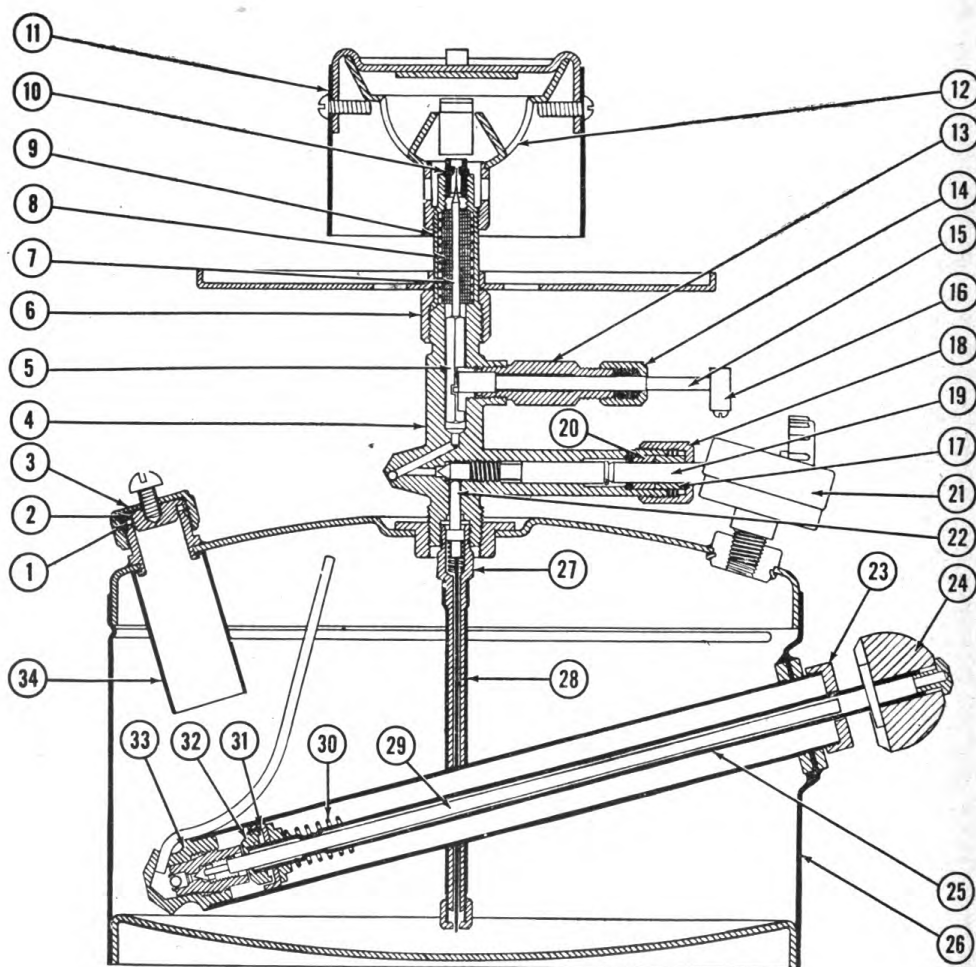

Figure 9. Cross-section of burner, one 10,000 B.t.u. head—Item No. 9R10001.
**7. TO FILL FUEL TANK.** **a.** Before filling the fuel tank of a stove or burner see that the fuel control valve (figs. 9 and 10) is closed and that the stove or burner is placed in a level position.
**b.** Unscrew and remove the filler tube plug (fig. 9), which is hand operated—a wrench should not be used to tighten or loosen this plug.
**c.** Fill the fuel tank by pouring fuel into the open filler tube (fig. 9). The fuel will begin to rise in the tube as soon as the tank has been filled to the proper level. The filler tube extends into the tank and prevents overfilling. When the liquid fuel reaches the bottom of the tube, air in the tank cannot escape and, consequently, the fuel begins to rise in the tube, indicating that the fuel tank is filled to the proper level. This feature of the stoves and burners assures adequate space for the air needed to generate the instant light mixture required to light them. (See sec. III.)
**8. TO PUMP AIR PRESSURE.** **a.** Air pressure necessary for operation of the stove or burner is provided by means of a pump (fig. 9), which extends out from the fuel tank. To operate the pump, proceed as follows:
**c.** Hold thumb or palm of hand over venthole in the end of pump handle, and pump air into the tank until the air pressure gauge (fig. 9) registers 30 pounds pressure. In the instance of those stoves and burners not equipped with an air-pressure gauge 25 to 30 full strokes of the pump will provide the proper air pressure. When proper air pressure
**9. TO LIGHT STOVE OR BURNER.** a. First clean the gas top of the vaporizer (figs. 9 and 12) by revolving the eccentric stem handle (figs. 9 and 12) several times. The handle must be in the down position when the stove or burner is lighted.
b. Open the fuel control valve (figs. 9 and 10) a quarter turn to the left (counterclockwise). After a few seconds, apply a lighted match at the top of burner head (figs. 9 and 13).
c. Five or six minutes are required after the burner has been lighted for the vaporizer (figs. 9 and 12) to become sufficiently heated to cause complete generation of the fuel. The flame may flash yellow occasionally during this period or even blow itself out. If the latter occurs, relight the burner and, as vaporizer becomes heated, the flame will gradually settle down to a steady blue. During the first 2 or 3 minutes of operation maintain the air pressure at approximately 25 pounds by a few additional strokes of the pump. The pressure should then be allowed to drop to between 15 and 20 pounds, which is normal operating pressure. Proper air pressure can be maintained for models not equipped with pressure gauges through observation of the appearance and character of the flame. (As pressure becomes too low, the flame will tend to die down and to assume a yellow rather than a blue color.) It may be necessary to operate a stove or burner several times to determine accurately the number of strokes of the pump required to maintain proper air pressure.
**10. ADJUSTMENT OF FLAME.** The size of the flame cannot be controlled by the fuel control valve (figs. 9 and 10). If the flame is too high, it may be adjusted by turning the eccentric stem handle (figs. 9 and 12) up slightly; this procedure will move the cleaner needle into the gas tip, reducing the flow of gas to the burner head. A higher flame can be obtained by increasing the air pressure through a few strokes of the pump.
**11. TO EXTINGUISH STOVE OR BURNER.** To extinguish a stove or burner, turn the fuel control valve (figs. 9 and 10) to the right (clockwise) as far as possible.
c. The function of the vaporizer (figs. 9 and 12) is to partly vaporize the fuel by heat conducted from the burner head when the stove or burner is in operation. After leaving the vaporizer, the partly vaporized
stream of fuel strikes the burner plate (figs. 9 and 13) and mixes with the air drawn through the air ports past the vanes (fig. 13), to form a completely vaporized fuel that can be lighted at the top of the stove or burner.
(a) Loosen and remove the burner head assembly (figs. 9, 13, 14, and 15).
(b) Loosen and remove the jamb nut (figs. 9, 12, 14, and 15).
(d) Loosen and unscrew the needle rod (figs. 9, 12, 14, and 15) from the eccentric block (figs. 9, 12, 14, and 15).
**b. Gas orifice.** Rotate the eccentric stem handle (figs. 9 and 12) frequently while the stove or burner is in operation, to remove any carbon or gum deposit that may accumulate on the gas tip orifice (figs. 9 and 12). The eccentric stem handle may be rotated while the burner or stove is in operation because the size of the gas tip orifice is larger than the diameter of the needle itself; the flow of fuel is therefore not completely shut off when the eccentric stem handle is rotated.
**c. Needle rod.** Do not attempt to straighten a damaged needle rod (figs. 9, 12, 14, and 15); in such instances always replace the damaged rod with a new rod. A damaged needle rod may enlarge the orifice of the gas tip (figs. 9 and 12), permitting more fuel to enter the burner
head (figs. 9, 13, 14, and 15) than is required for efficient and satisfactory operation.
**d. Burner head.** (1) Inspect the burner head or heads (figs. 9, 13, 14, and 15) of a stove or burner frequently to be sure the head has been firmly tightened on the vaporizer (fig. 12). If a head is not tight, the flame will flash yellow and a tendency to lose generation will result.
**e. Pack nuts.** Verify the tightness of the pack nut (figs. 9, 14, and 15) on the stem of the fuel control valve (figs. 9 and 10) and that of the eccentric pack nut (figs. 9 and 12). If fuel leaks develop, close the fuel control valve immediately to extinguish the stove or burner and tighten the connections as soon as, but not until, the stove or burner is extinguished.
**f. Filler plug.** Inspect filler tube plug (figs. 9 and 15) occasionally. If the plug gasket (figs. 9, 14, and 15) is cracked or deeply grooved, replace it with a new gasket, employing the following procedure:
(1) Tighten the plug cap (figs. 9 and 14) on the filler tube plug so as to hold the plug disk (fig. 9) firmly while loosening the screw in the top of the filler tube plug.
(2) Remove the disk and gasket by slipping the point of a knife under the gasket and lifting them out of the groove. Replace old gasket with a new gasket, pressing the new gasket into place with the fingers.
**g. Pump.** (1) Keep the leather on the plunger (figs. 9, 14, and 15) soft, employing the following procedure:
(a) Unscrew the cap (figs. 9 and 14) on the air pump plunger.
(c) Replace the cap on the air pump plunger (figs. 9 and 15).
(2) If the check valve (small metal ball) in the air pump sticks (figs. 9, 14, and 15), proceed as follows:
**h. Fuel.** If the life of the vaporizer filler screen (fig. 12) is relatively short, the fuel tank (figs. 9, 14, and 15) probably contains loose carbon or dirt. To remedy this difficulty, proceed as follows: